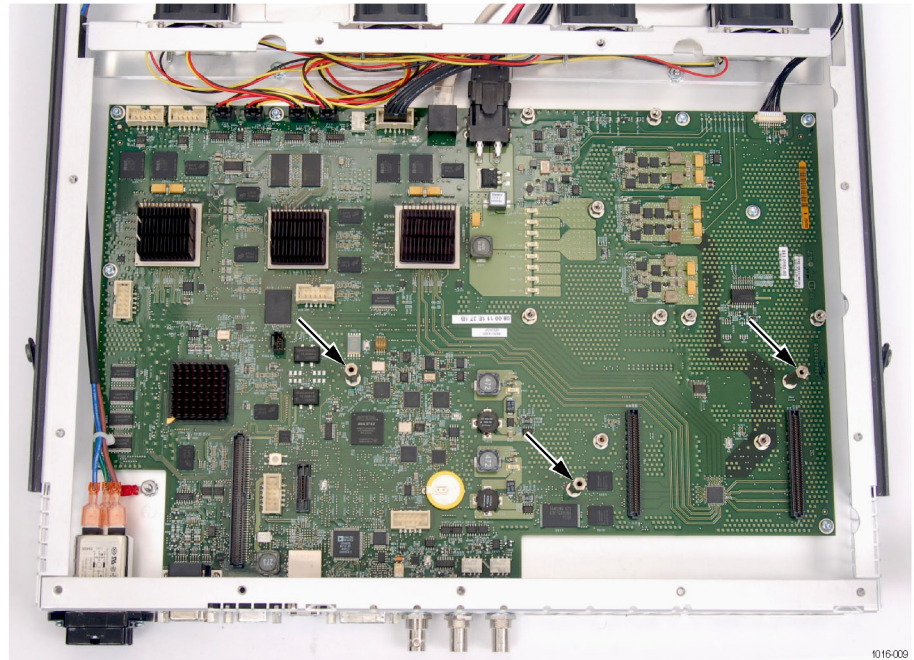

Figure 11: Audio board post locations
4. Replace three main board mounting screws with the three posts from this kit as illustrated. If an audio board was installed previously, you can leave the three existing posts installed. (See Figure 11.)